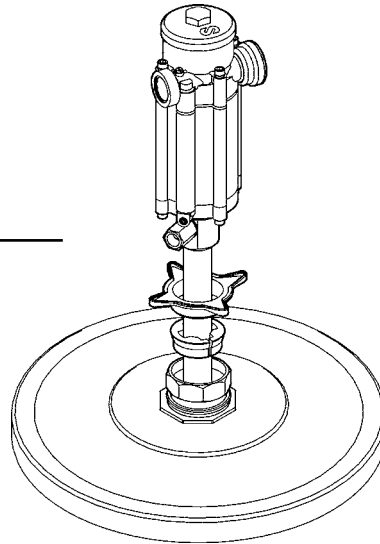

Fig. 1
3. Insert the pump through the nut and fix it with the star nut to the desired height (see figure 1).